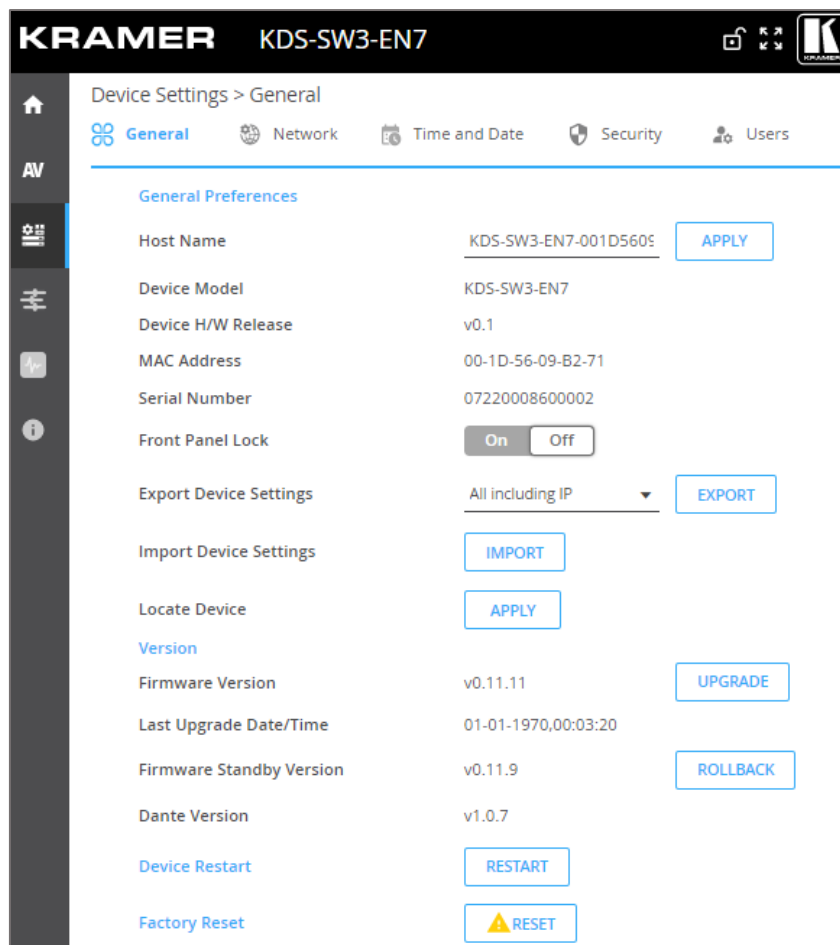

Figure 19: Device Settings – General Tab
1. In the Navigation pane, Select **Device Settings**. The General tab in the Device Settings page appears (see Figure 19).
1. In the Navigation pane, click **Device Settings**. The General tab in the Device Settings page appears (see Figure 19).